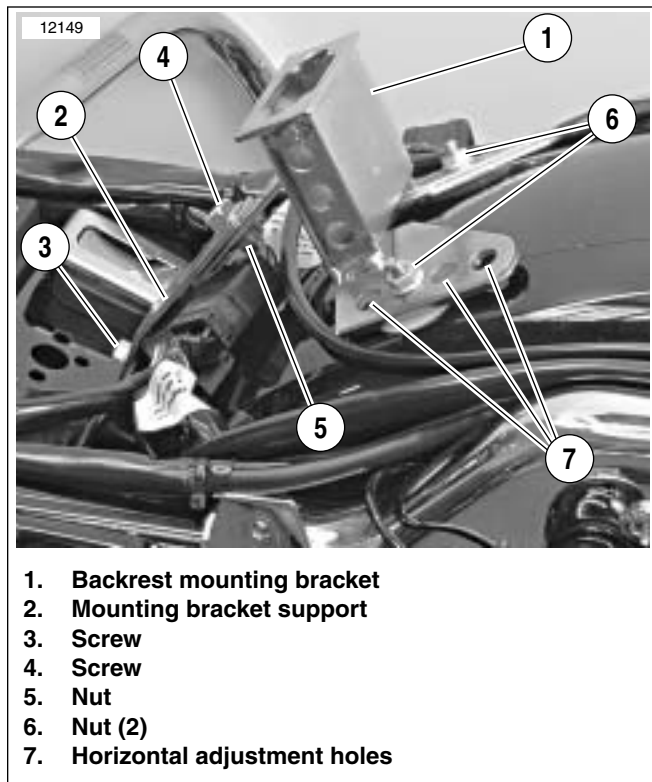

Figure 2-49. Backrest Mounting Bracket
3. See Figure 2-49. Loosen, but do not remove, screw (3).
4. Remove nut (5) and screw (4). Pivot mounting bracket support (2) out of the way.
5. Remove nuts (6). Lift mounting bracket (1) off threaded studs. Reposition bracket in desired pair of horizontal adjustment holes (7) and reinstall nuts. Tighten securely.
6. Pivot mounting bracket support back into position, line up attachment holes, and install screw (4) and nut (5). Tighten securely.
7. Finally, tighten screw (3) securely.